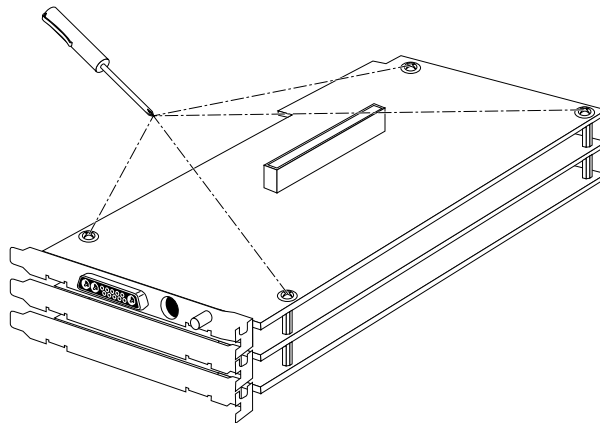

Figure 3-8 Removing graphics board set screws
1. Remove the four screws from the corners of the graphics board set; see Figure 3-8.
1. Remove the two screws with the screwdriver included in the option. Use a small crescent wrench to remove the two hex nuts from the corners of the graphics board set; see Figure 3-8.